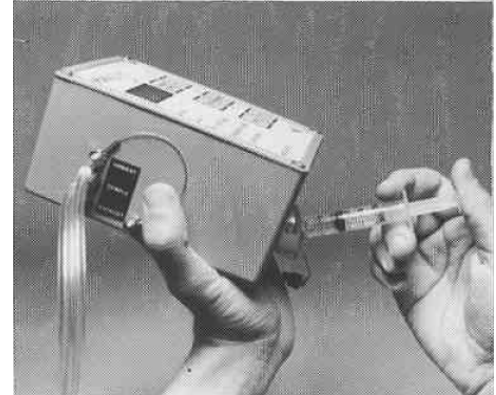

Figure X-6. Injecting the alcohol
Step 5. While observing the alcohol fill indicator, gently and slowly inject alcohol into the PORTACOUNT. Stop filling the moment the indicator turns dark. This may happen before the syringe is empty. Observe the following precautions while filling (fig. X-6):